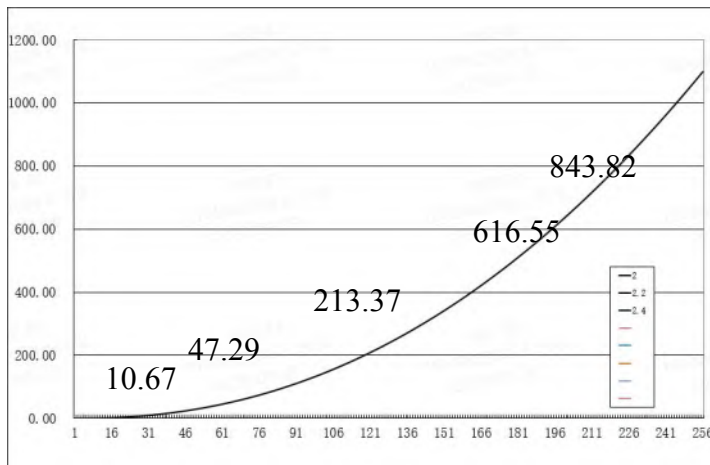

Figure 10. Brightness and Gray-scale Contrast
4. The electro-optical response time measurements shall be made as Figure 10 by switching the “data” input signal ON and OFF. The times needed for the luminance to change from 10% to 90% is T_r , and 90% to 10% is T_f .
The electro-optical response time measurements shall be made as shown in Figure 10 by switching the “data” input signal ON and OFF. T_r : The luminance to change from 10% to 90% , T_f : The luminance to change from 90% to 10% .